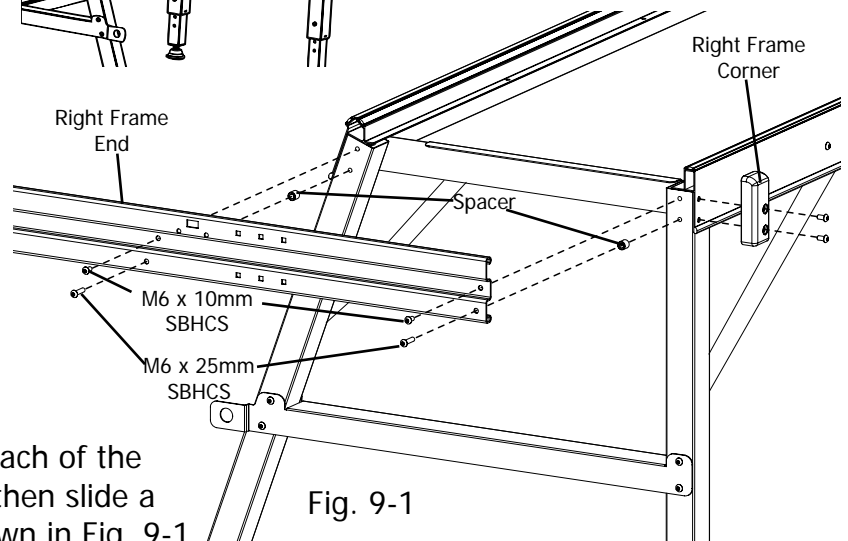

Fig. 9-1
**9-1:** Slide a M6 x 25mm SBHCS through each of the bottom holes in the Right Frame End and then slide a spacer on the end of those screws, as shown in Fig. 9-1.
**9-5:** Remove the two screws from the back corner of the right leg, as show in Fig. 9-1.